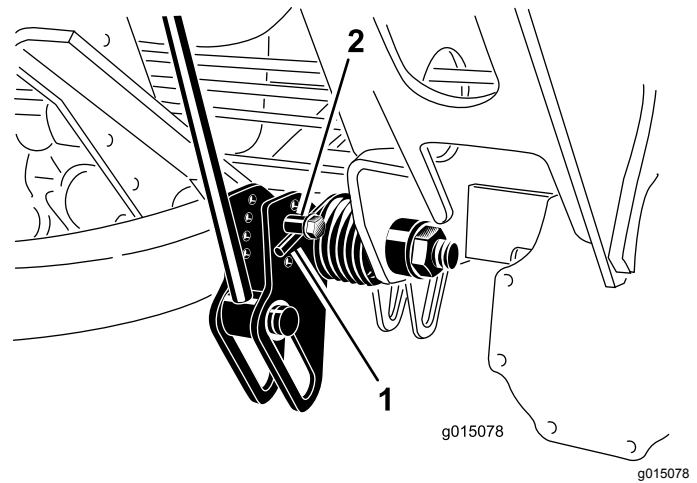

Figure 58
2. Insert a tube or similar object onto the long spring end to relieve the spring tension during the adjustment (Figure 58).
3. While relieving the spring tension, remove the bolt and locknut securing the spring actuator to the bracket (Figure 58).